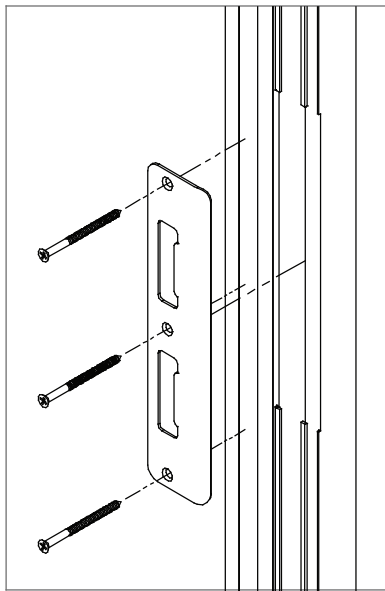

Figure 1
Fasten with (3) #8 x 2-1/2" screws. See Figure 1.